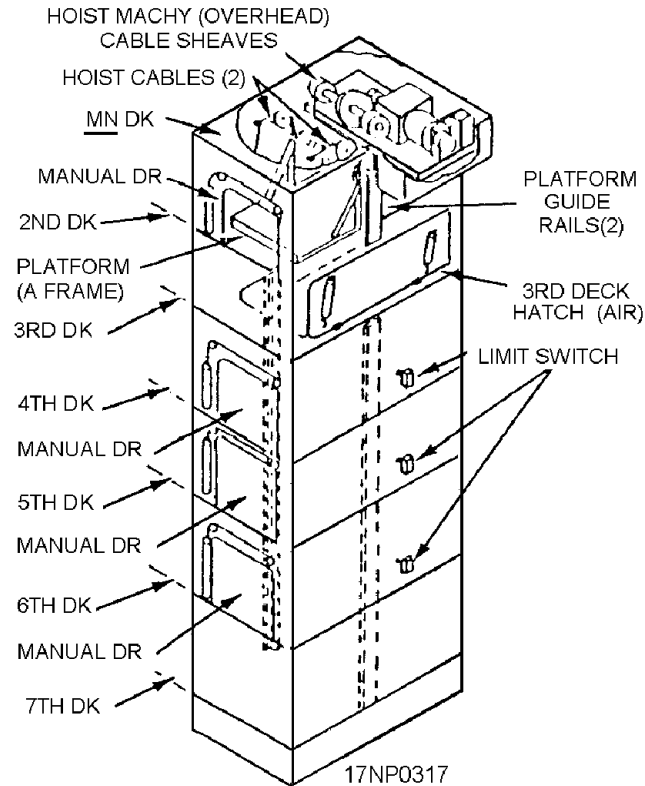

Figure 11-10.—Typical 5,000-pound, lower-stage, weapons elevator.
**LOWER-STAGE WEAPONS ELEVATORS (5,500 POUNDS).**—The 5,500-pound, lower-stage, weapons elevator (fig. 11-10) services magazines and ammunition handling areas from the 7th-deck level up to and including the 2nd-deck level. The components of